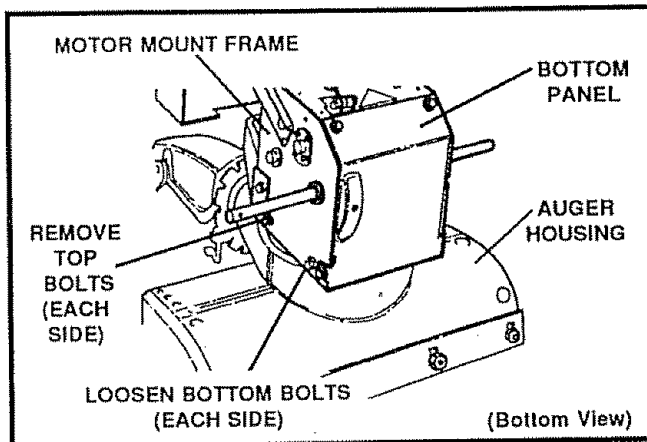
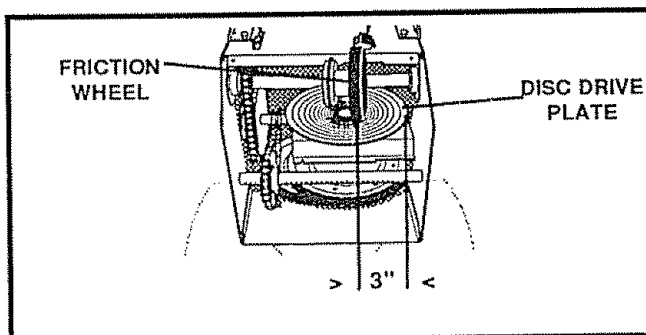

FIG. 30
FIG. 31A
- Remove top two bolts securing auger housing to motor mount frame. Loosen bottom two bolts (See Fig. 30, page 20)
- Remove the bottom panel (See Fig 30)
- Position the shifter lever in first (1) gear.
- Note the position of the friction wheel on the disc drive plate. The right outer side of the disc drive plate should be 3 " from the center of the friction wheel (See Fig 31A)
- Move friction wheel to proper position as indicated in previous step (Fig. 31A).
- Remove the bottom panel (See Fig. 30, page 20).